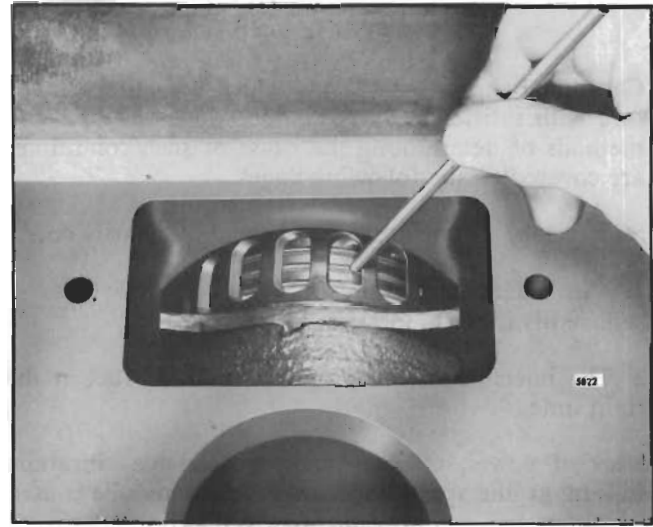

Fig. 2 - Inspecting Piston Rings
- A. Piston rings may be stuck or broken. To determine the condition of the rings, remove the air box cover and inspect them by pressing on the rings with a blunt tool (Fig. 2). A broken or stuck ring will not have a "spring-like" action.